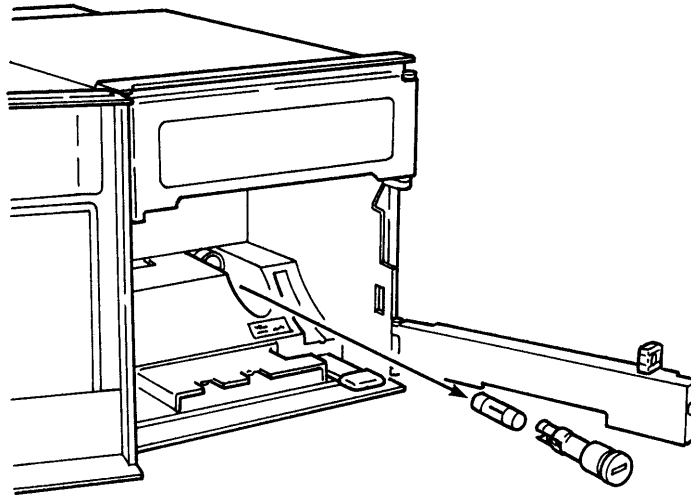

Figure 11.2 Fuse Replacement
- 2 The fuse is now visible in the right lower front of the plate. See also figure 11.2.